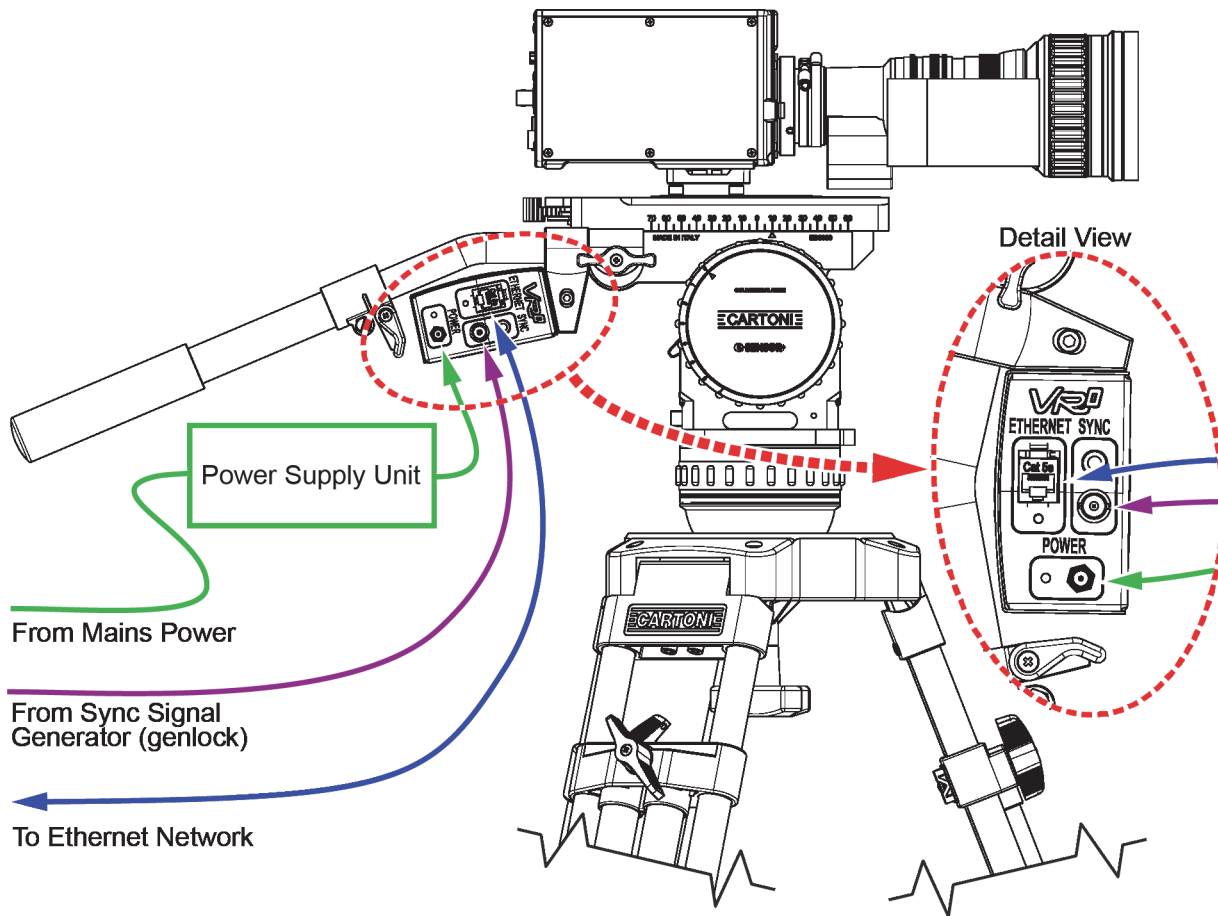

Figure 3.10 - Connecting Sync, Network, and Power Cables
2. Connect the video reference (genlock/sync) signal cable (not included) to the **SYNC** BNC connector on the VRzero module (see **Figure 3.10**).